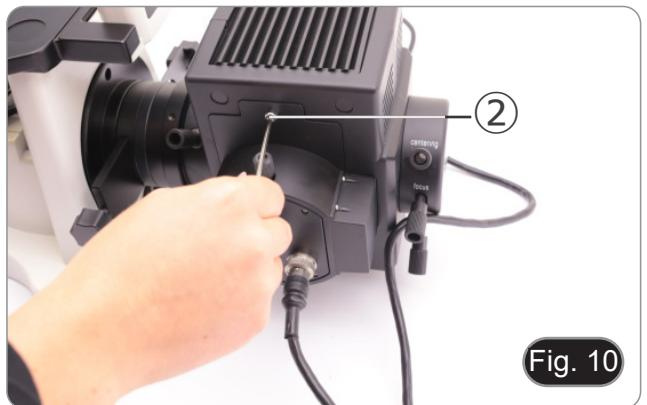

Fig. 10
1. Open the lamp housing using the door lock screw ② and remove the lamp holder. (Fig. 10)